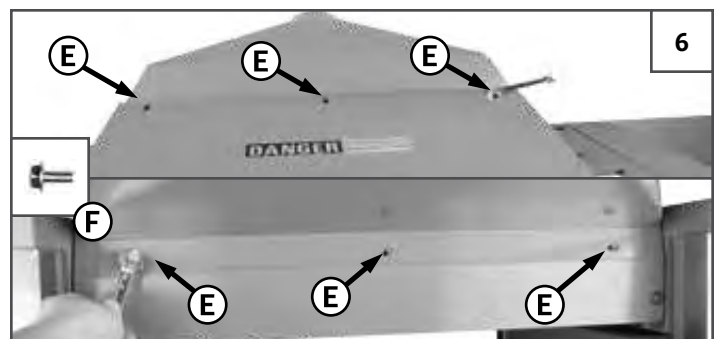

FIGURE 6: INSTALLING DUST CHUTE
2. Align the **MOUNTING HOLES (E)** in the dust chute with the corresponding holes in the machine. Secure the chute with the six **FLANGE BOLTS (F)**. Use a 10 mm wrench. See Figure 6.